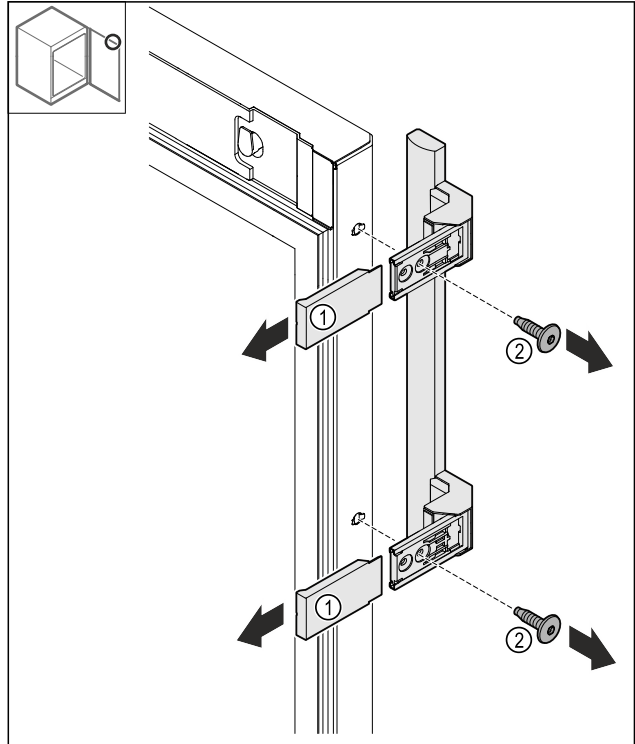

Fig. 25
- Remove the covers Fig. 25 (1).
- Loosen the screws Fig. 25 (2).